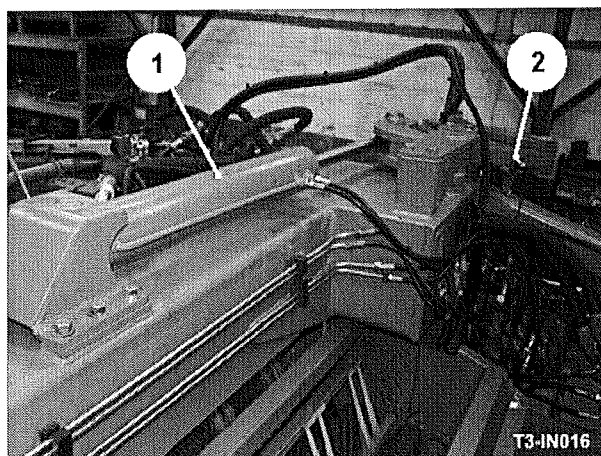

Fig 19
The tracking ram (item 1, fig 19) enables the RH wheel to be tracked out from under the machine for work. Hydraulic wheel motors are fitted as standard.
When the RH wheel is rotated to the inboard or outboard position, the proximity switches (item 2, fig 19) reset the valve control to reverse the rotation of the wheel.